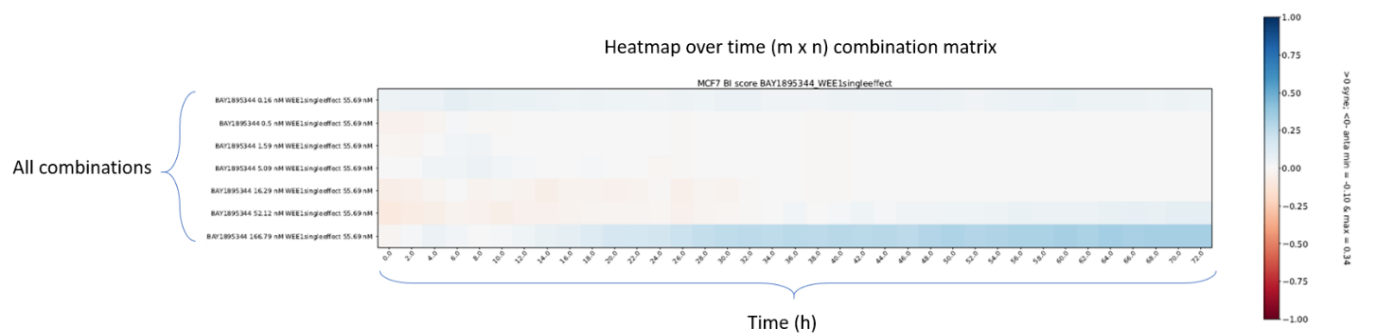

Figure 33: Heatmap over time for (m x n) matrix combination.
- (m x n) matrix combination Figure 33.